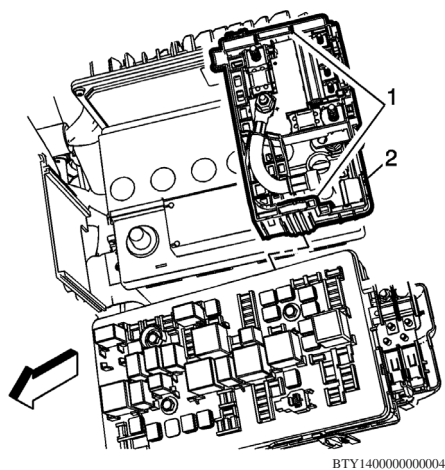

Fig. 4 Battery fuse block removal
8. Remove battery fuse block (2) with retainers (1) and set aside, **Fig. 4**.
3. Install battery fuse block (2) to battery with retainers (1), **Fig. 4**.